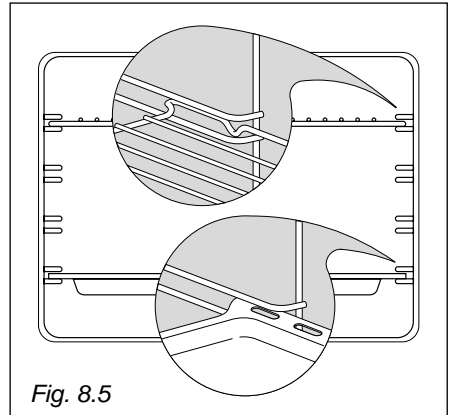

Fig. 8.5
- Position the shelf and tray as per Fig. 8.5.